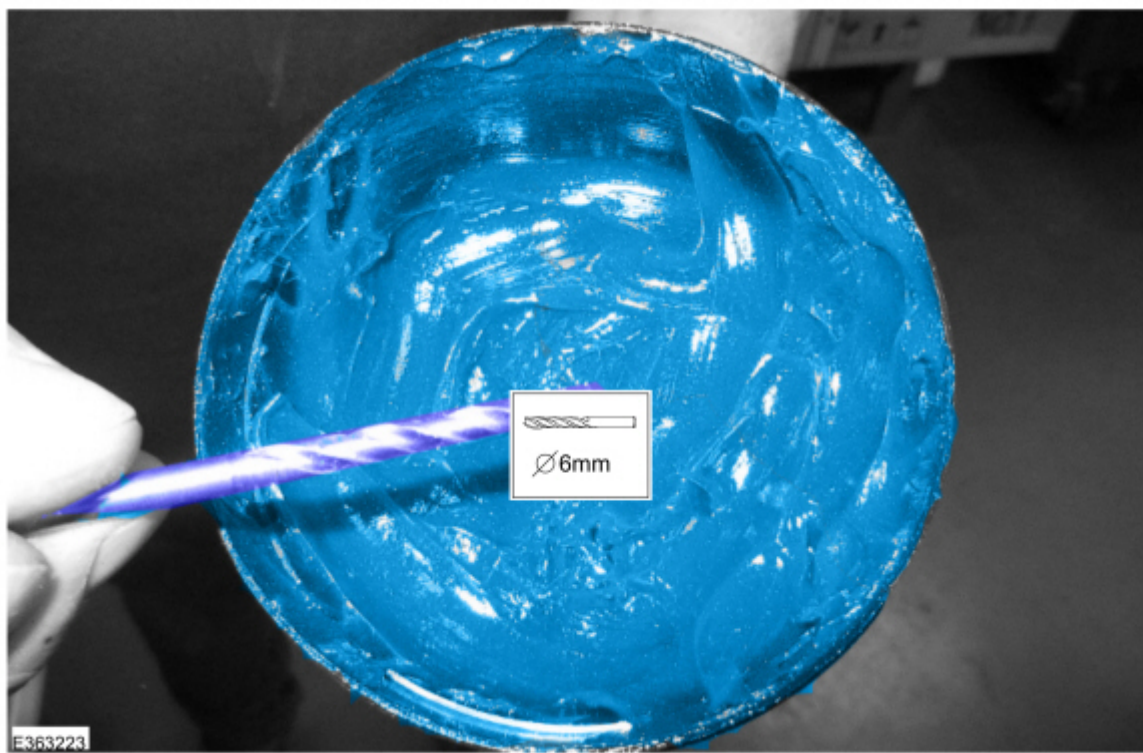

Figure 6
**NOTE:** When drilling the top hole extra care must be taken to avoid dropping swarf inside the frame box section. Failure to do so may result in metal chips rusting inside the frame and forming visible rust trails on the outside of the frame. It is recommended to pack the drill flutes with grease and drill slowly to ensure all swarf is contained. (Figure 6)